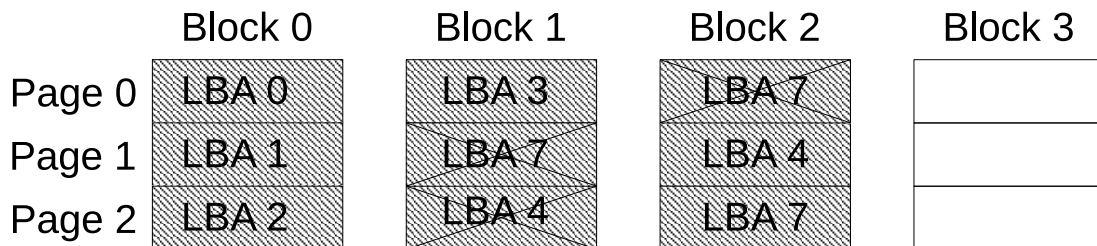

Figure 2: After write access to the LBA 7, 4, 7, 4, 7
- 2 The host now writes to the following LBA: 7, 4, 7, 4, 7. The result is shown in figure 2. The first and second entries of LBA 7 and the first entry of LBA 4 are now obsolete (crossed out), as they have already been replaced by newer data.